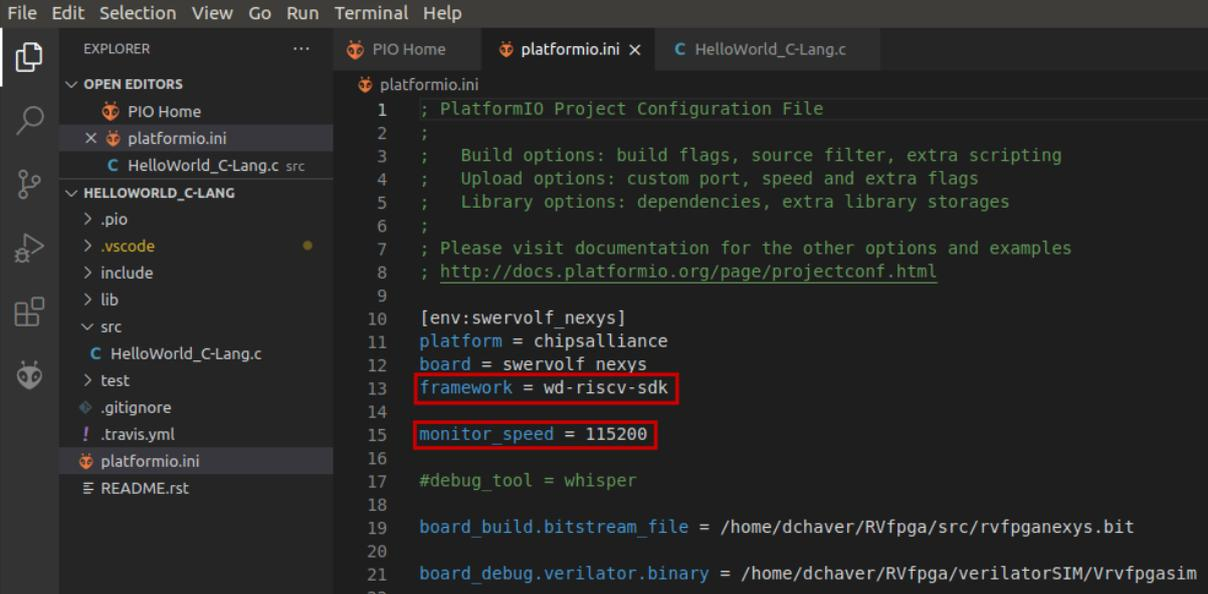

**Figure 65. Assembly program**
7. The program in assembly (Figure 65) first reads the value in the Switches with a load instruction (`lw a5, 1024(a4)`) and then writes it to the LEDs with a store instruction (`sw a5, 1028(a4)`). Execute it step by step, change the switches and verify that the LEDs change to reflect the new switch values.